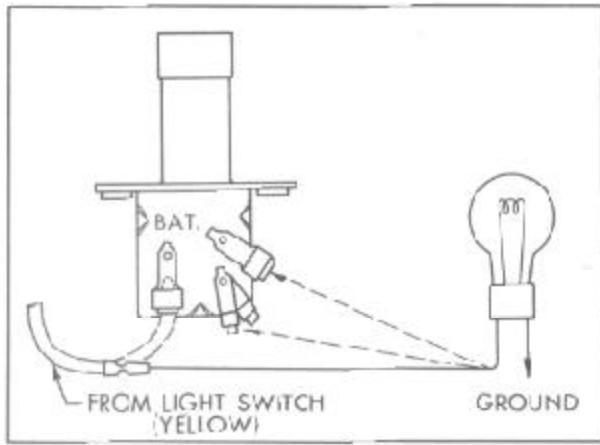

FIGURE 28
2. With the light switch on, connect the dimmer switch battery wire to a test lamp and ground the other lamp terminal, Figure 28.